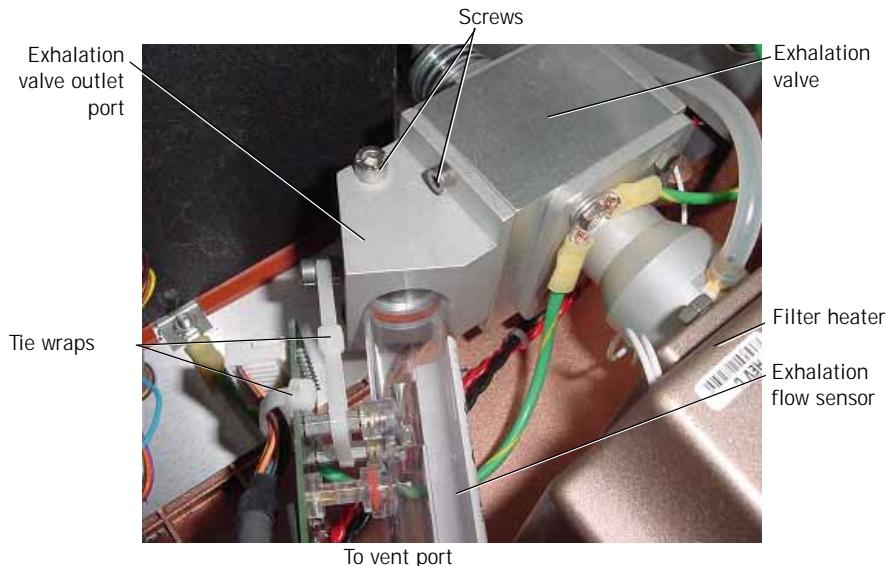

Figure 10-39: Exhalation Flow Sensor
3. Cut the tie wraps that hold the exhalation flow sensor to the exhalation valve and to the EXH F/S cable (Figure 10-39).
8. Connect the EXH F/S cable to the flow sensor and fasten it with a tie wrap. See Figure 10-39 for tie wrap positioning.